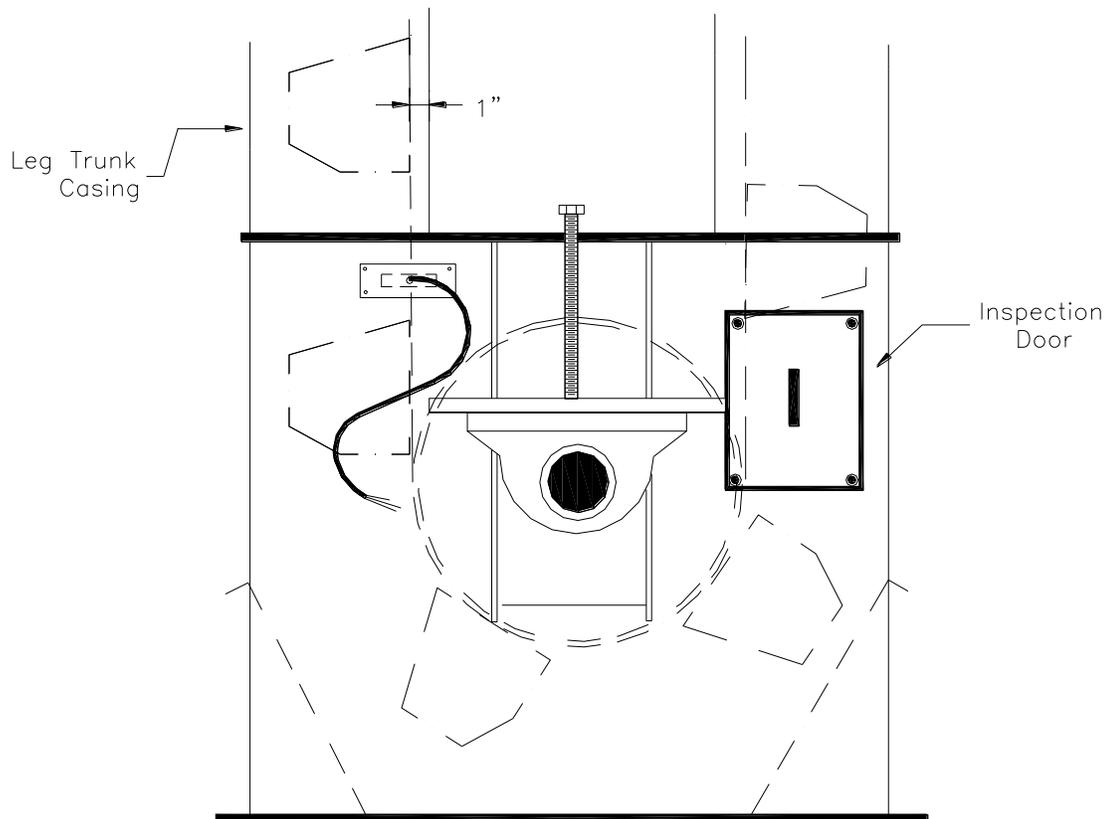

Figure 14. Rub Location on Elevator Tail
4.6.1.2.2. If you still cannot locate the exact track of the belt by the previous method, then the following alternative may help. Measure out one inch from the inside of the trunk casing of the leg. (See figure 14)